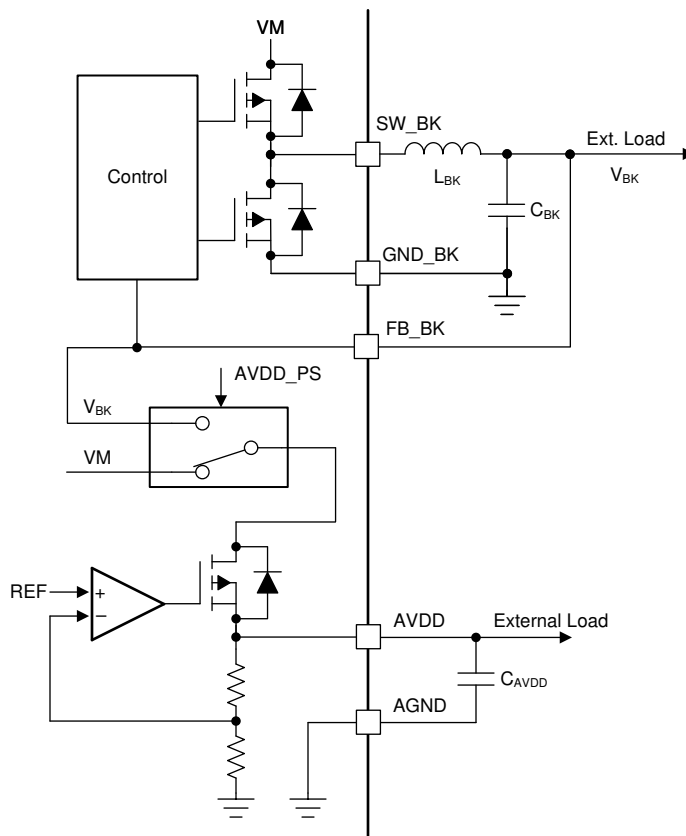

Figure 8-13. LDO Power Sequencing on Buck Regulator
The LDO of MCT8316ZR and MCT8316ZT devices has an option of accepting the power supply from buck regulator to reduce power dissipation. The power sequencing mode in the MCT8316ZR and MCT8316ZT device allows on-the-fly changeover of the LDO power supply from the DC mains (VM) to buck output (VBK) as shown in Figure 8-13. This sequencing automatically happens in the hardware device when the buck voltage is set to either 5V or 5.7V. For disabling the power sequencing in the SPI device, set the BUCK_PS_DIS bit to 1.